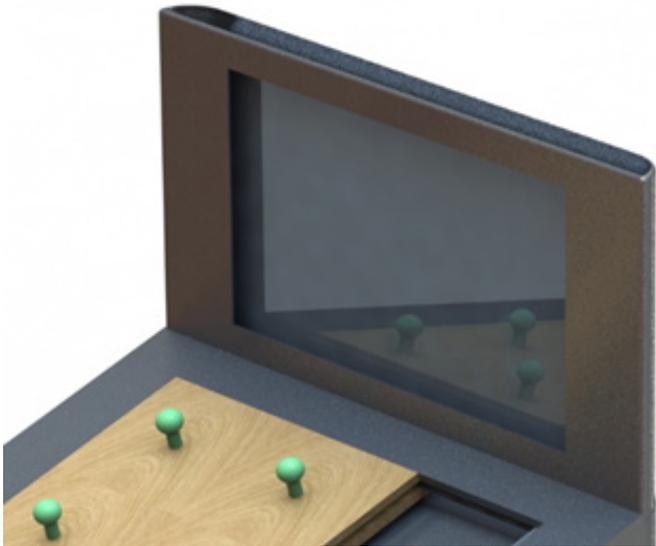

Figure 19 – Screen within the screen frame
Cover the screen frame entrance with the rubber insert (20), figure 19.